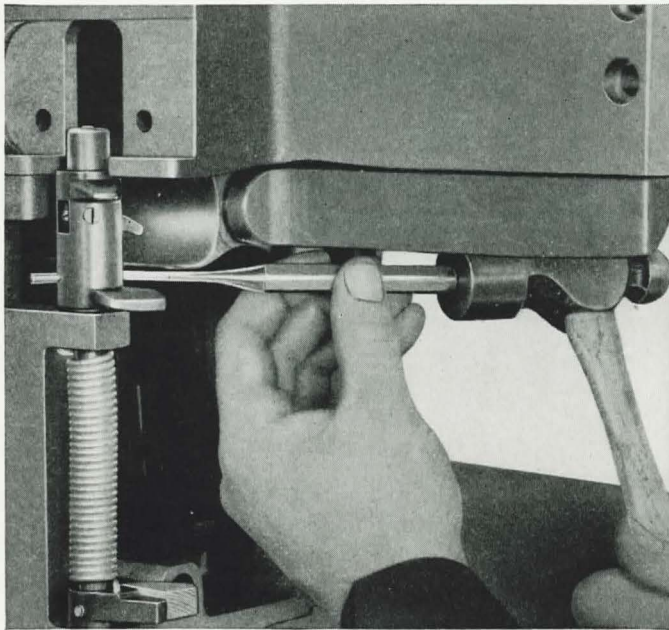

Figure 64
- (1) Remove the catch head bracket.
- (2) Remove the catch head.
- (b) Rotate the catch arm and insert a block between it and the casting to place the catch head taper pin in position to be driven out. Drive out the taper pin, **Figure 64**.